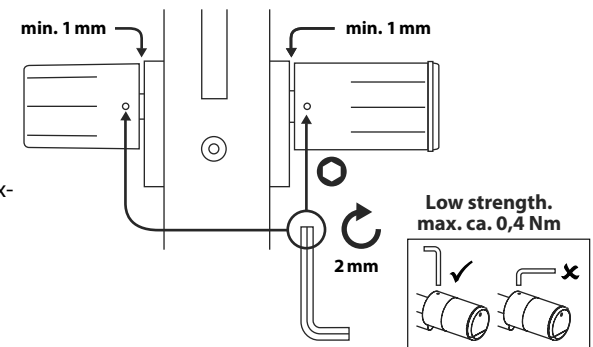

Fig. 6
- 6 Screw the grub screws back into the two knobs (Fig. 6).